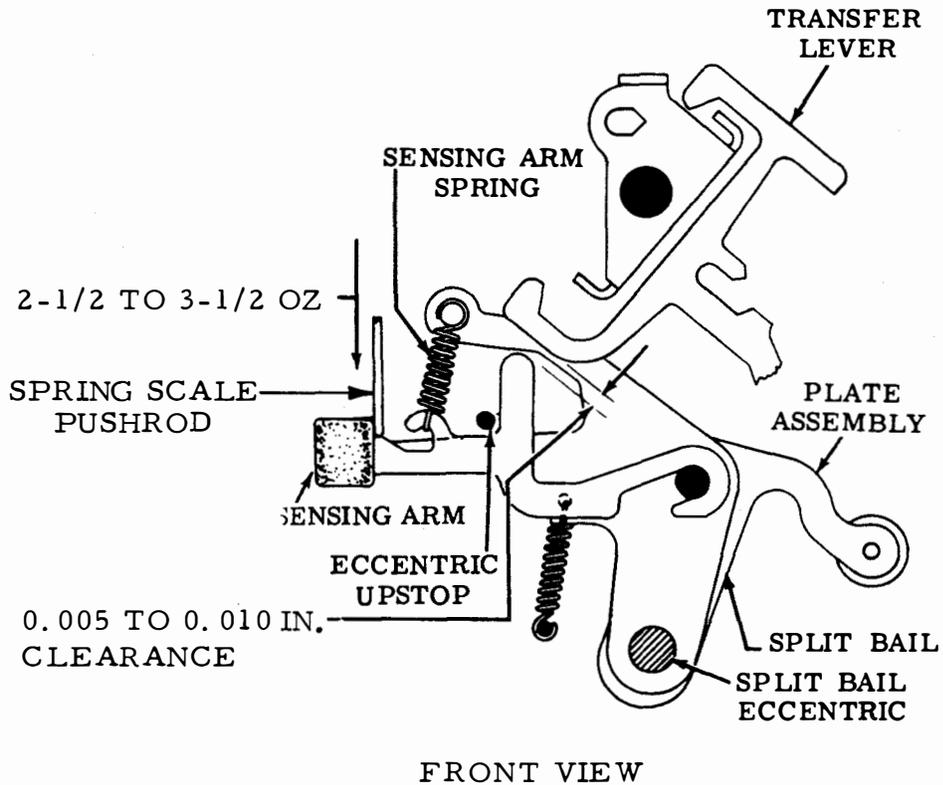

Figure 6-60. Sensing Arm - Transfer Lever Alignment, Sensing Arm Spring and Split Bail Eccentric
(8) Sensing Arm - Transfer Lever Alignment. Adjust sensing arm - transfer lever alignment as follows:
- (a) Refer to figure 6-60.
(a) Refer to figure 6-60.